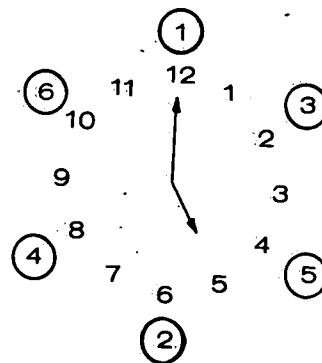

FIGURE 43. TIGHTENING HEAD BOLTS
5. Install the head assembly and gasket to the cylinder block. Tighten the head bolts in a "clockwise" manner starting with 12 o'clock and follow in the order shown around the "clockface" (Figure 43), finishing at the 10 o'clock position. Torque the bolts evenly to 44-46 foot-pounds.